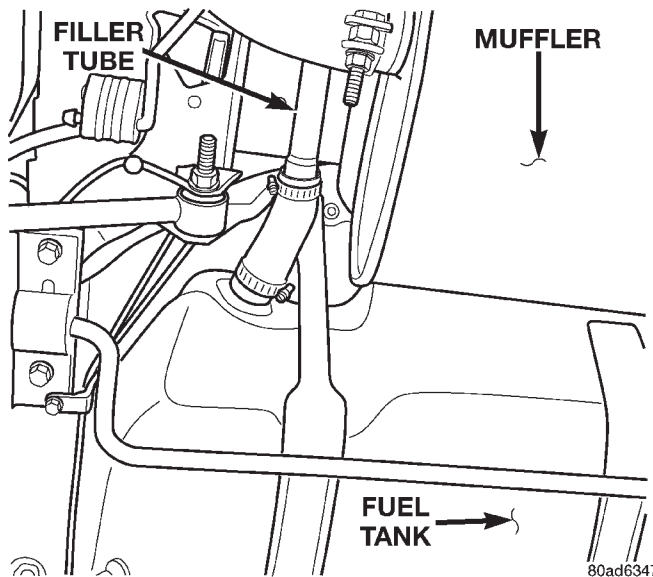

Fig. 25 Stabilizer Bar
(7) Loosen the rear stabilizer bar brackets from body. Swing stabilizer bar toward rear of vehicle (Fig. 25) and (Fig. 26).